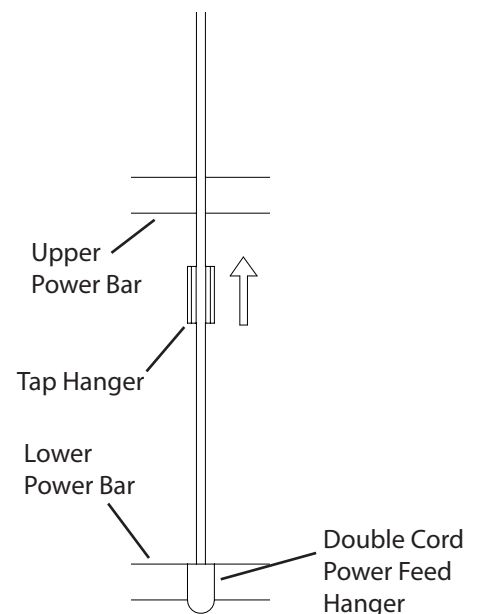
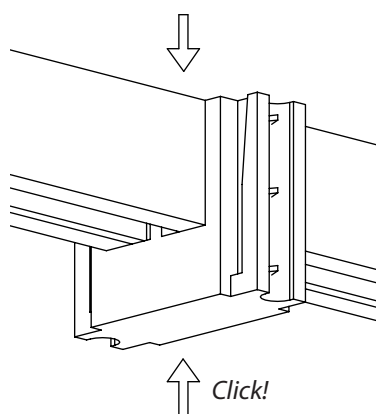

Fig. 3
Fig. 4
4. Position **Tap Hanger** under **Upper Power Bar** at junction with **Double Cord Power Feed Hanger** (Fig. 3). Press down firmly on top of the Upper Power Bar, while pressing up on the bottom of Tap Hanger, until Tap Hanger clicks into place (Fig. 4).